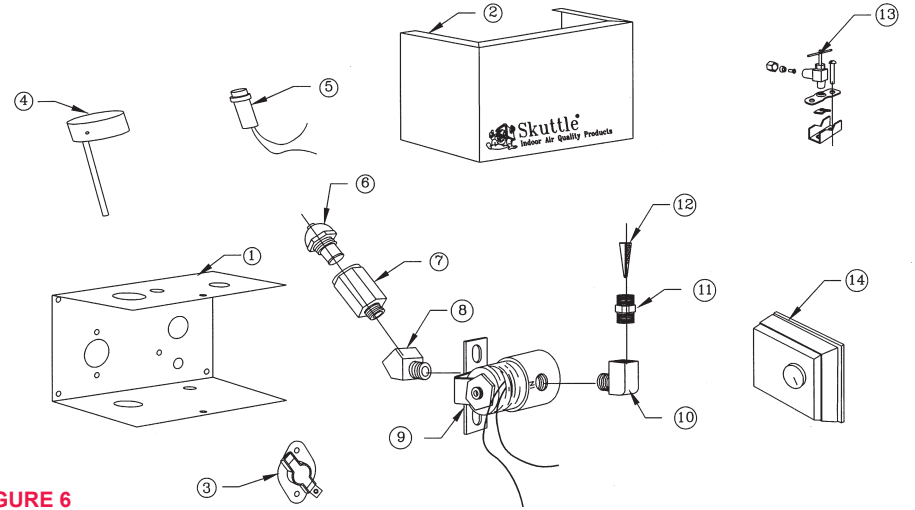

FIGURE 6
8.0 Parts may be ordered through your local heating or plumbing dealer. (See Figure 6 and Table 3, right, top).